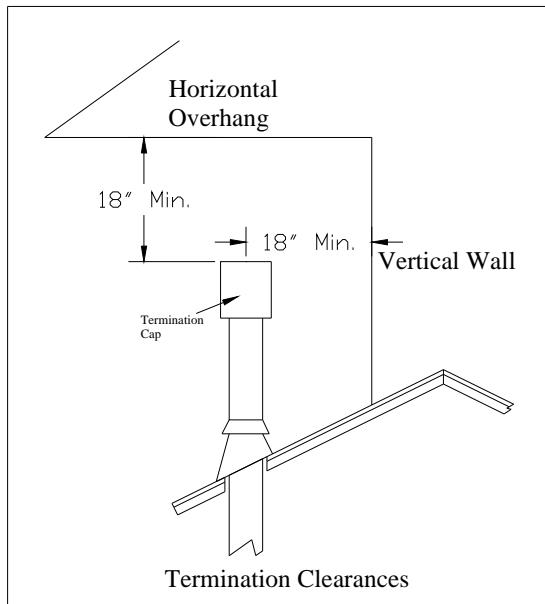

Figure 7 - Termination Cap clearances
4. The termination must fall within the area outlined in Figure 8 and the Chart in Figure 7.
4. The termination must fall within the area outlined by the shaded area shown in *Figure 7*. Use a